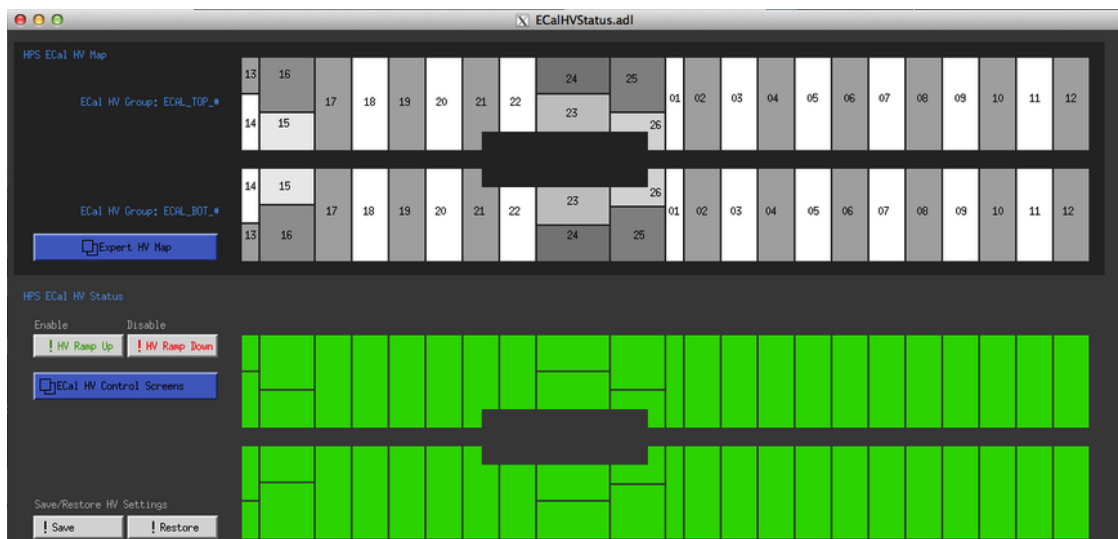
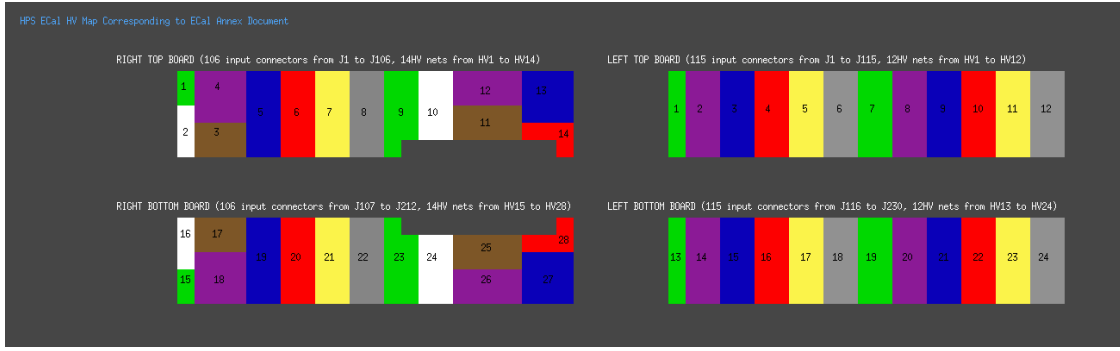
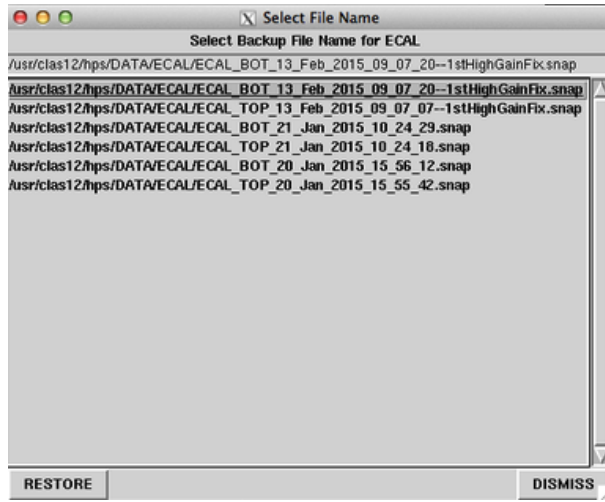

Figure 20: View of the EPICS ECal HV expert monitoring window.
Figure 21: Expert HV channel map for reference.
Figure 23: The gui interface to save/restore HV settings.
Occasionally the soft IOC for the HV needs to be manually restarted. Symptoms of this condition include errors messages from EPICS when trying to turn on/off voltages and white blocks in the main HV screen (figure 20).
**NOTE:** The ECal HV groups were renumbered for EPICS, and the correspondence map (figure 21) is available in the expert ECal HV monitoring window (Figure 20) via the “Expert HV Map” button.
A system to save and restore the entire calorimeter's voltage settings is available via buttons in the ECAL HV expert window in Figure 20. If the voltage setpoints are changed, a backup should be made of the new settings. This must be run as a user in group `clas-4`; user `hpsrun` does not have sufficient privileges to save/restore voltage settings. An example of the restore window is shown in figure 23, which is accessible from the HV expert screen shown in Figure 20.